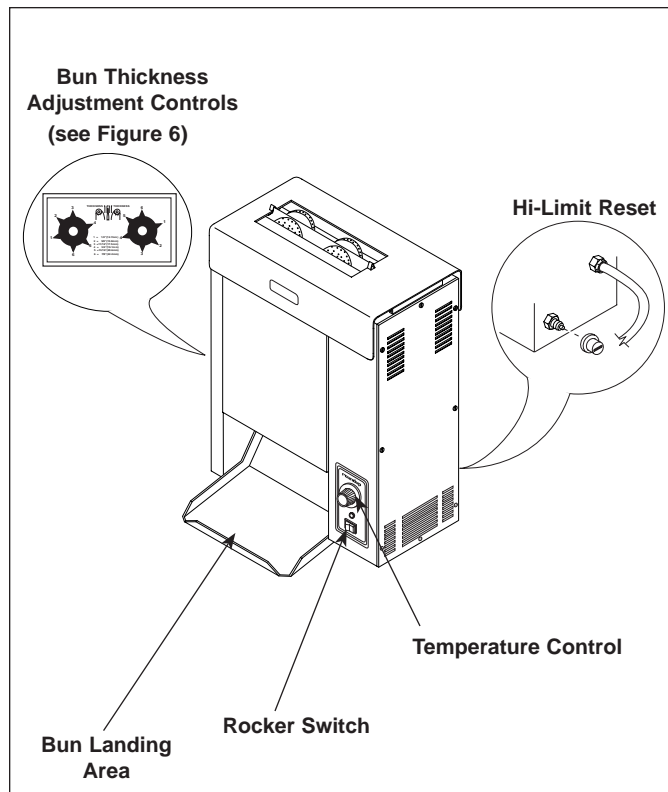

Figure 5. Toaster Controls
2. Turn the Rocker Switch (power On/Off) to ON (Figure 5).
4. Drop buns into toaster with the cut sides of heel and crown facing each other (Figure 5).
5. Toasted product will drop into the Bun Landing Area (Figure 5).
A hi-limit thermostat will turn off electrical power to the heater and control circuits if the unit overheats. To reset this thermostat, allow sufficient time (10-15 minutes) for the unit to cool down, then press and release reset button located at the rear of the unit (Figure 5).
Hi-limit switch tripped open.	Reset hi-limit switch (Fig. 5, page 9).